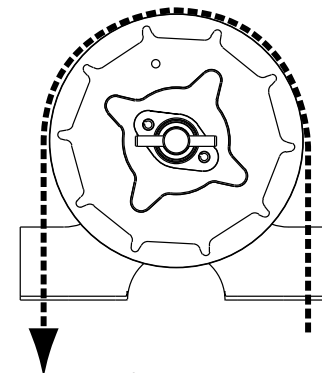

Figure 25
- Route the hand chain through the chain guide, around the pocket wheel and back through the chain guide. See Figure 25